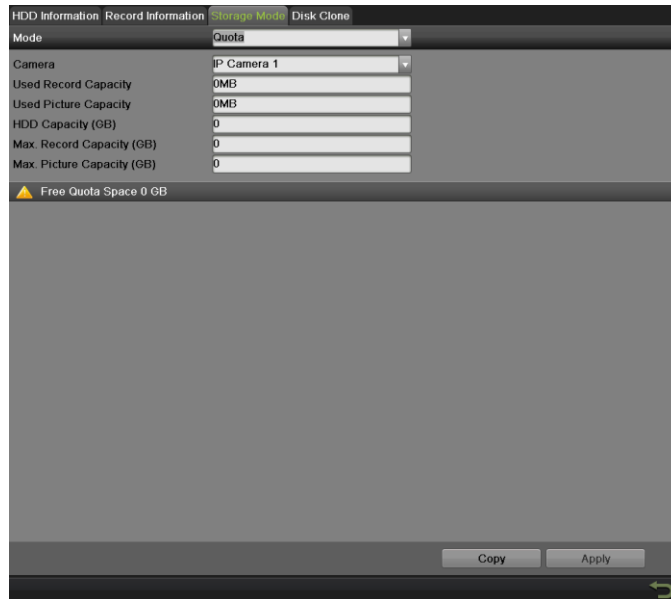

Figure 154 Quota Mode Settings Menu
2. Select the Storage Mode tab, as shown in Figure 154.